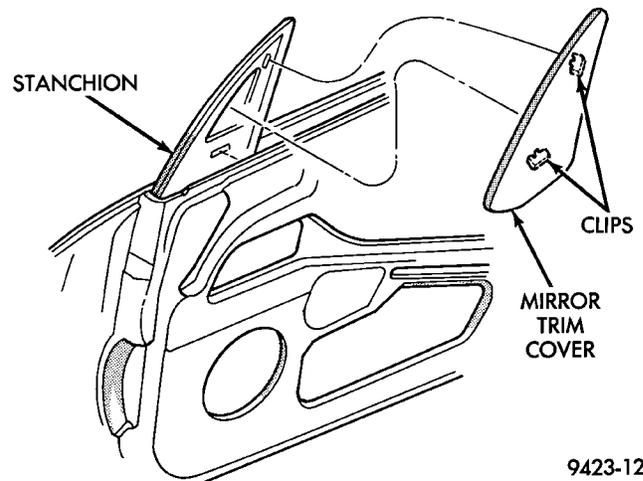

Fig. 31 Side View Mirror Trim Cover
- (1) Disengage clips holding side view mirror cover to stanchion (Fig. 31).
- (2) Separate mirror cover from vehicle.